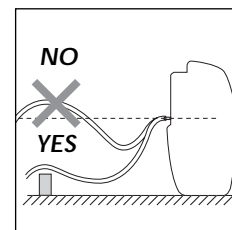

fig. 3
- Make sure that the hose is not higher than the spout (Fig. 3), otherwise water will remain in the tank; also check that the hose is not twisted.